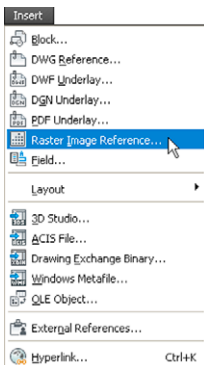
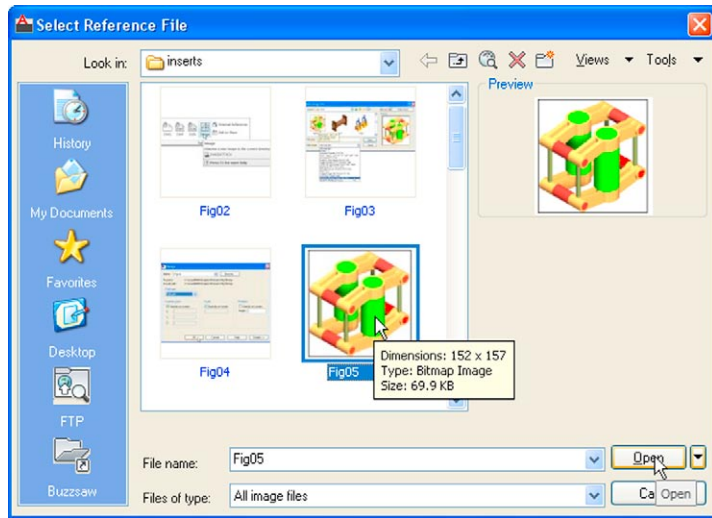

Fig. 10.8 Selecting **Raster Image Reference...** from the **Insert** drop-down menu
Fig. 10.9 The Select Reference File dialog
1. Click **Raster Image Reference...** from the **Insert** drop-down menu (Fig. 10.8). The **Select Reference File** dialog appears (Fig. 10.9). Click the file name of the image to be inserted, **Fig05** (a bitmap ***.bmp**). A preview of the bitmap appears.